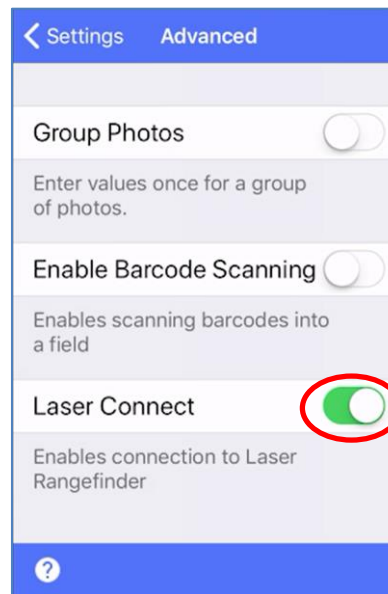

Figure 7
7. Turn On **Laser Connect** (Figure 7)